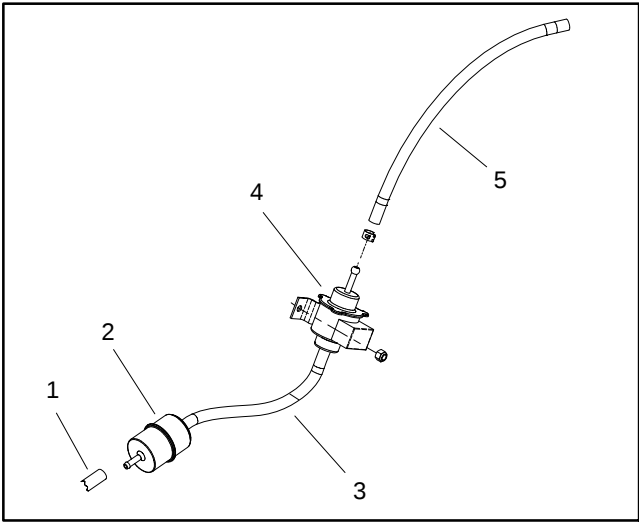

Figure 36
The fuel pump used on the Groundsmaster 3320 (gasoline engine) is attached to the support bracket inside the right side frame near the fuel filter (Fig. 36).
2. Disconnect fuel pump discharge hose from the carburetor inlet (Fig. 36).